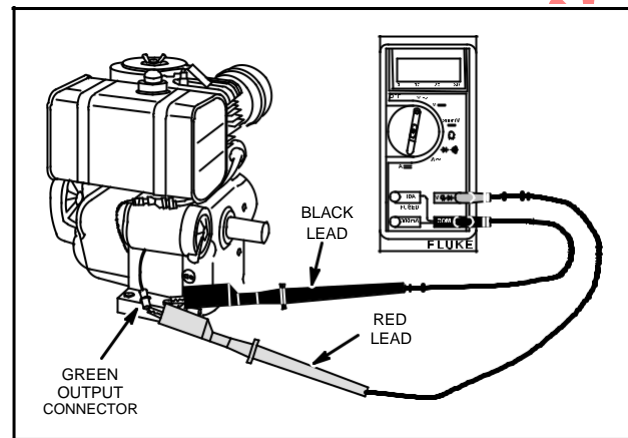

Fig. 768 – TESTING ALTERNATOR OUTPUT
4. Attach RED test lead clip to output terminal, Fig. 768.